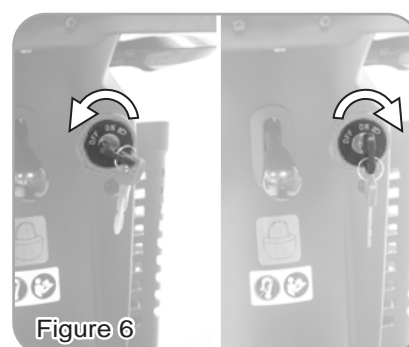

Figure 6
- Turn the key to the right - Turn scooter on. (Figure 6)